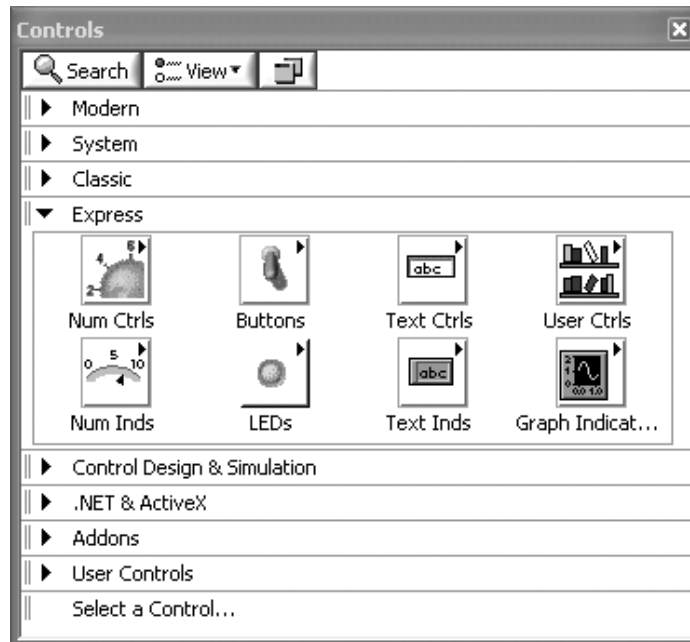

Figure 1.14
When you select (click on) the front panel, the *Controls Palette* (Figure 1.14) will be displayed. Drag a Vertical Toggle Switch control from the Controls Palette to the front panel.
1. On the Controls Palette, click on the Express group. This causes the various types of controls and indicators available in the Express group to be shown, as illustrated in Figure 1.14.